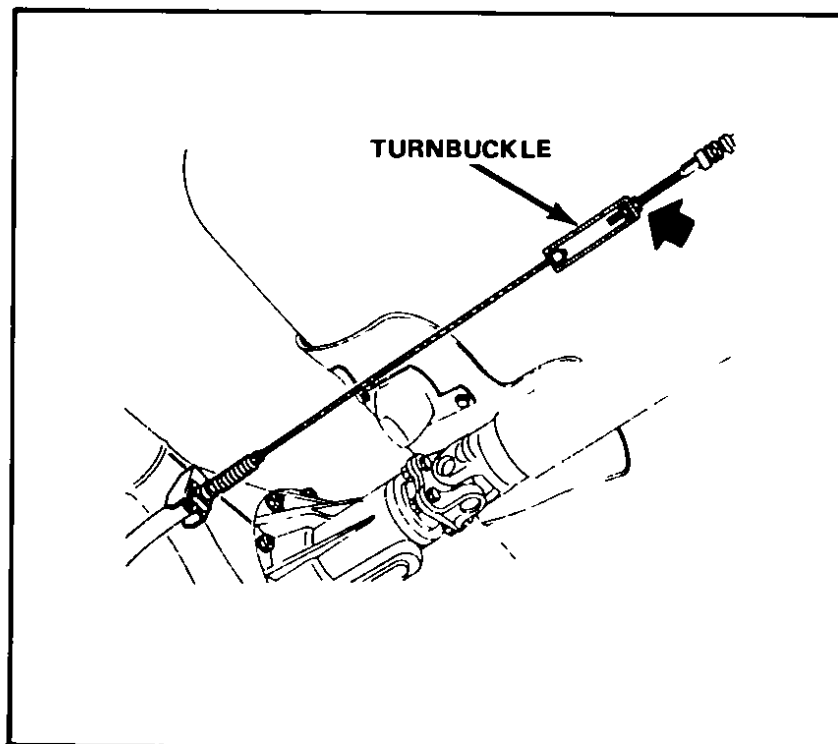

Fig 117 Parking brake turnbuckle – Model B210
- 1 Raise the car and support it with safety stands to gain access to turnbuckle, Fig 117